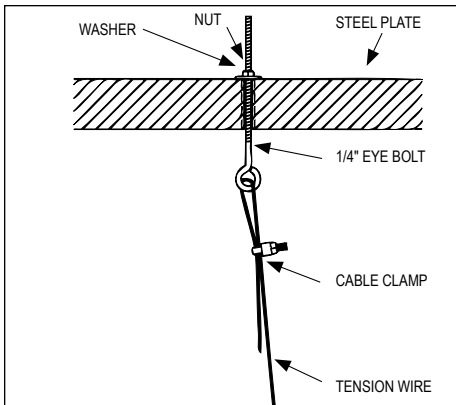

Figure 10
4. Once the vent stack has been lowered into the chimney, install a steel support plate over the top of the chimney. Run the tension wires through the anchors as shown in **Figure 10**.